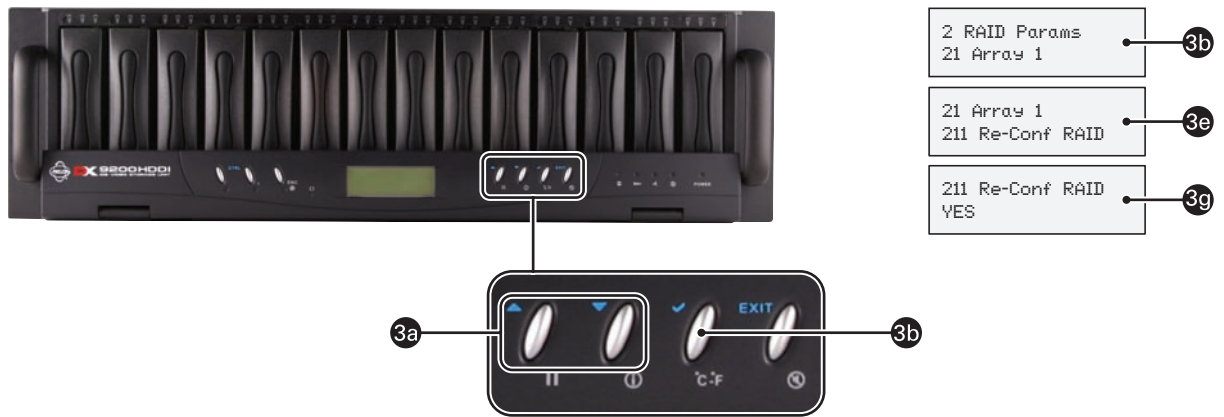

Figure 14. Configuring a Single RAID Level 5 Array
- h. Press **✓** to select YES. The entry is confirmed and the 21 Array 1 menu item is redisplayed. Figure 14 shows the button selections and the menu choices.